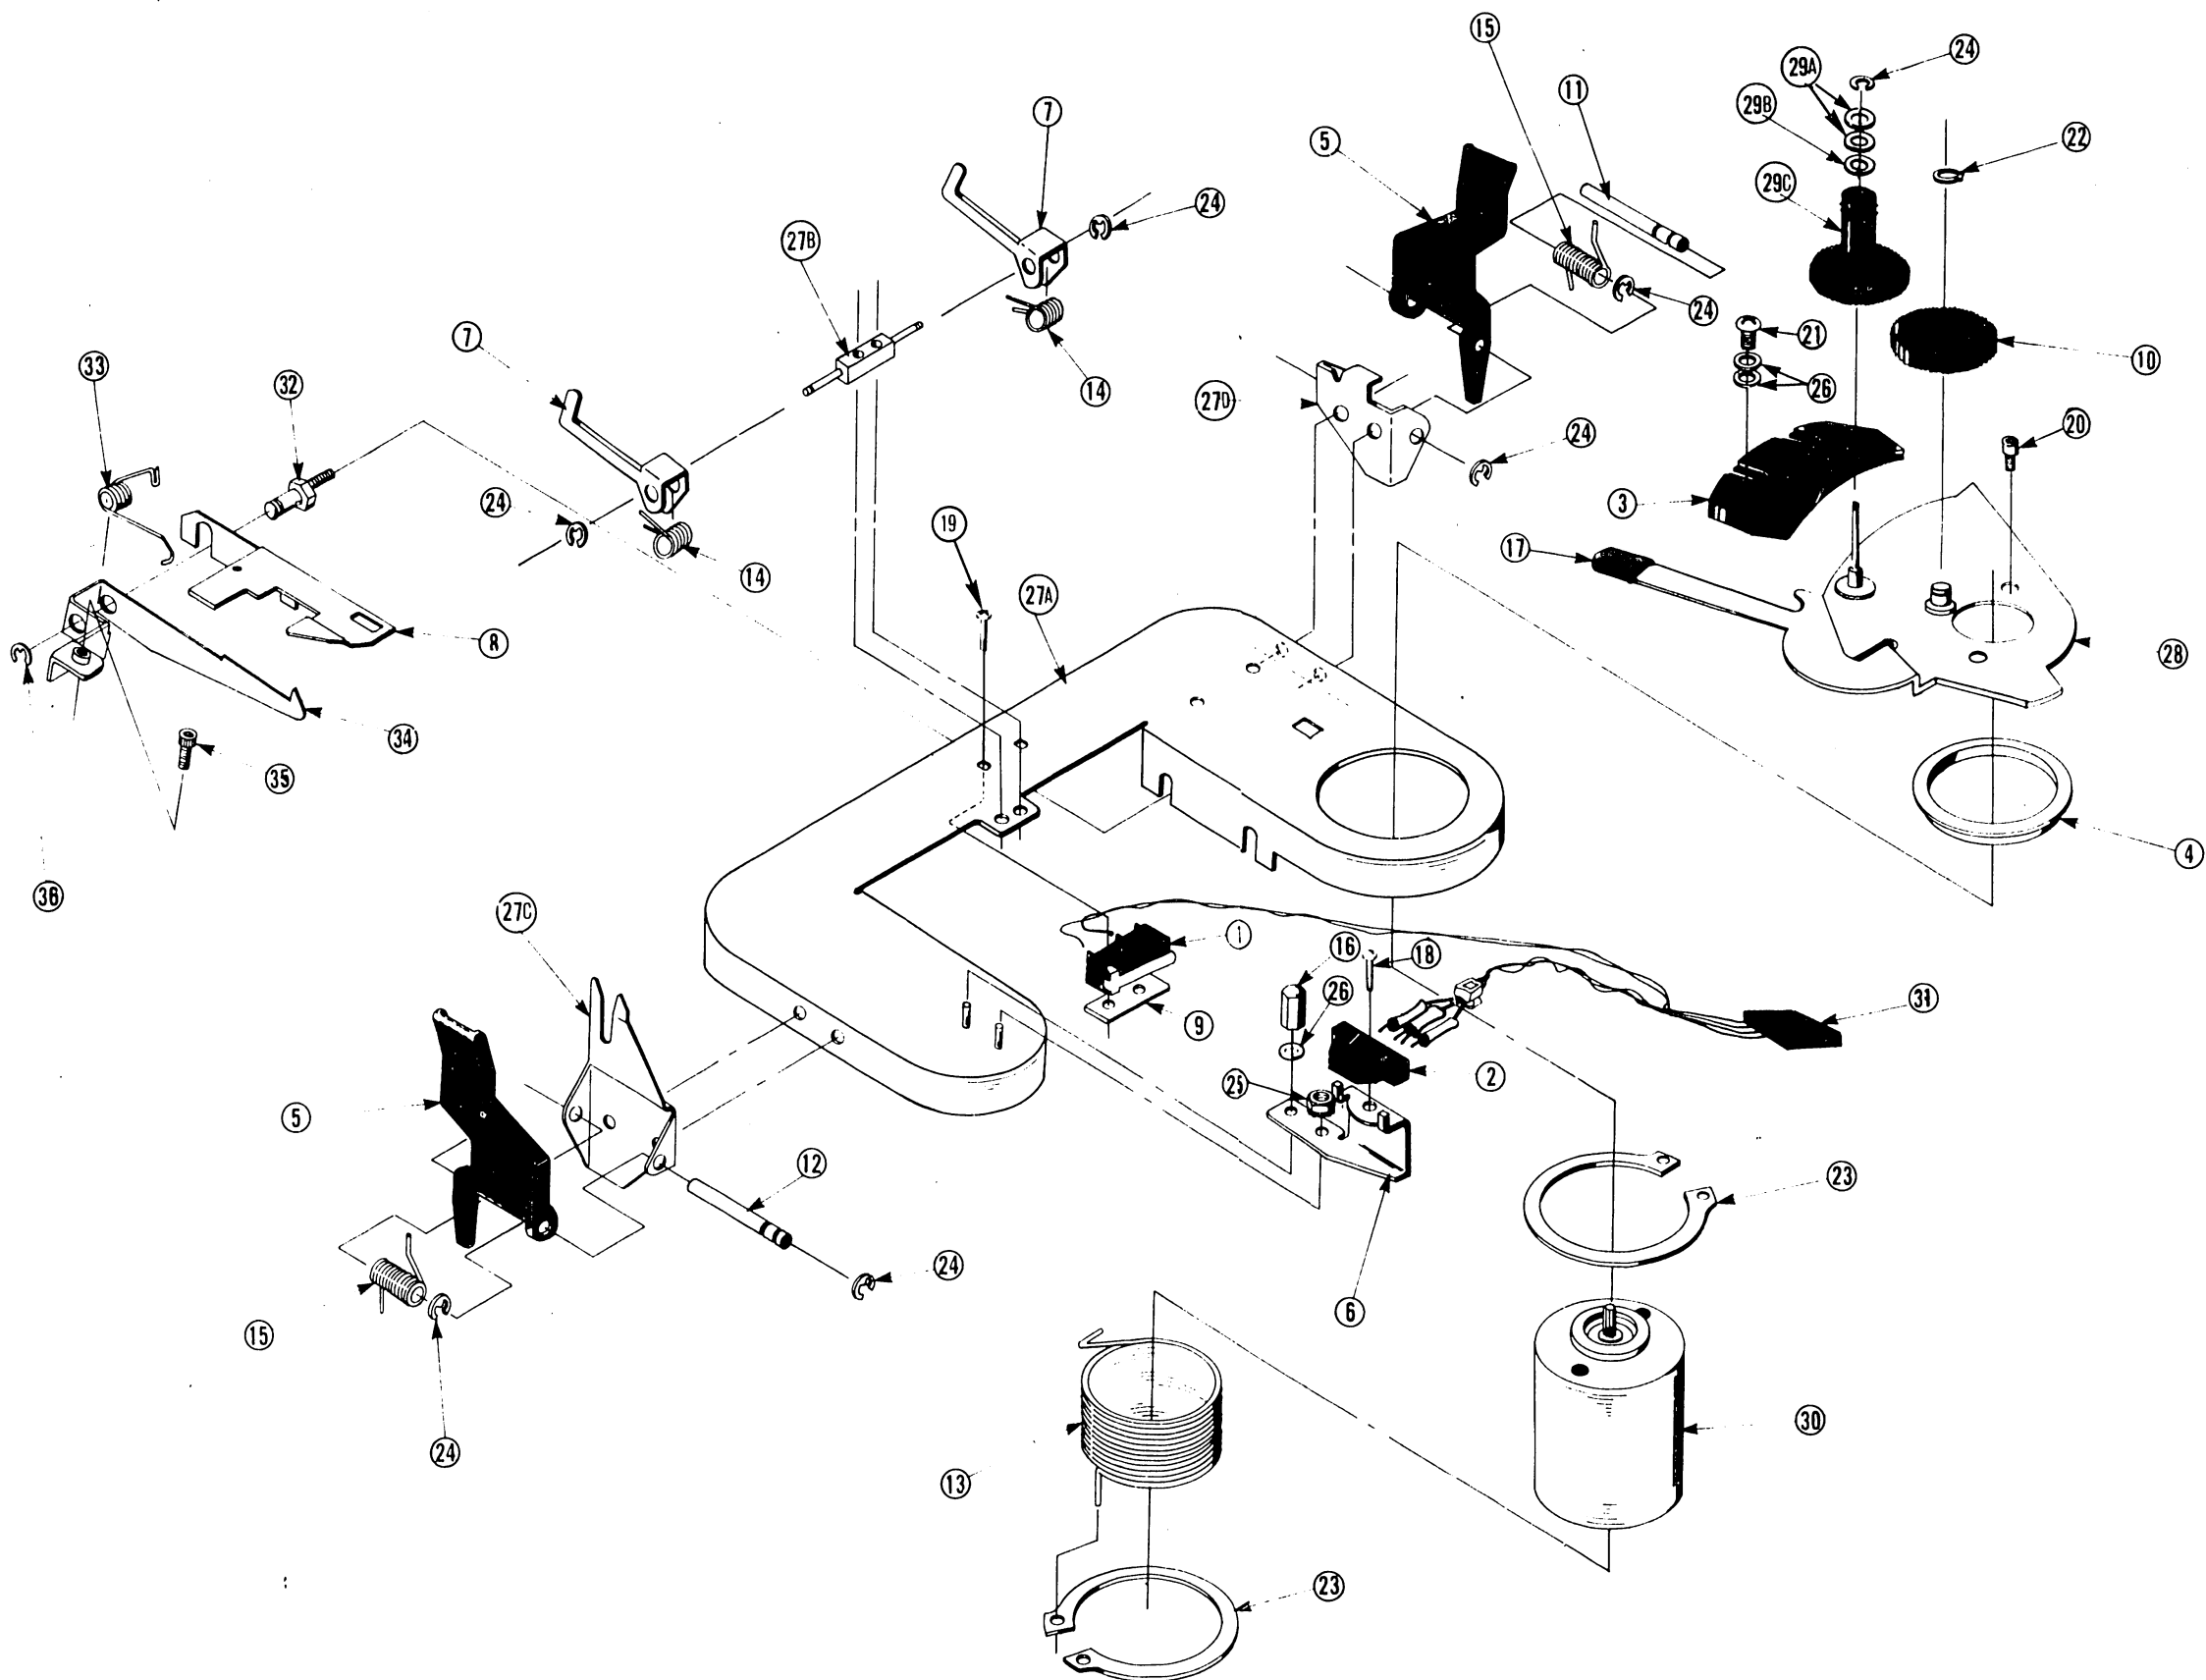

FIGURE 9-10 RIBBON PLATFORM ASSEMBLY
9.3.9 RIBBON PLATFORM ASSEMBLY (See Figure 9-10)